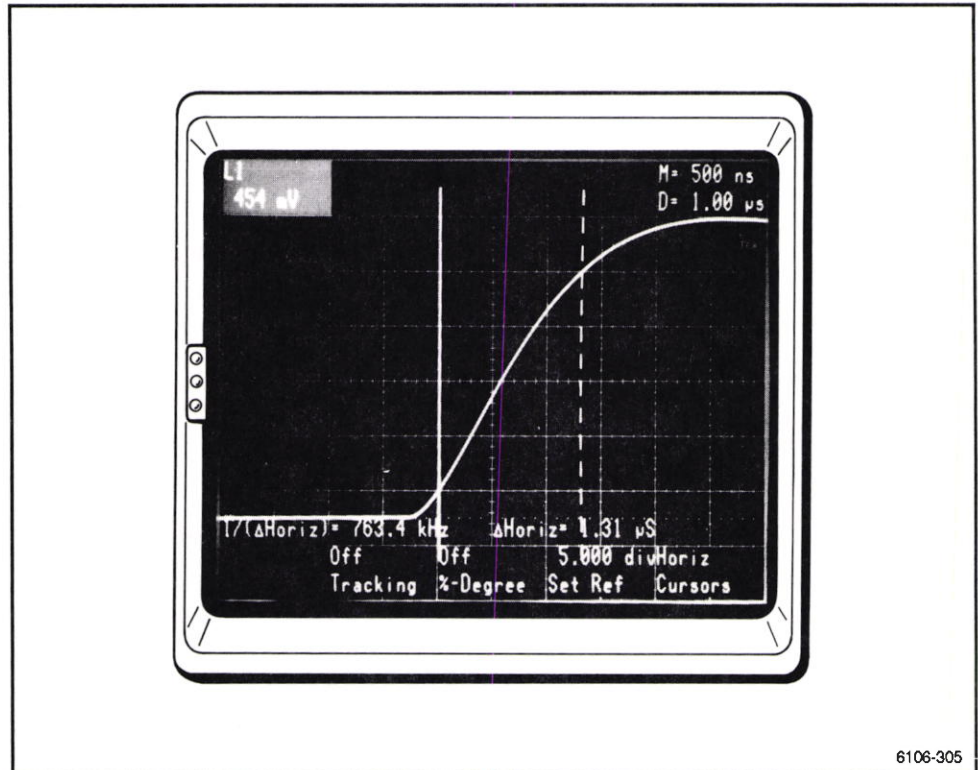

Figure 2-106. Setting the cursors to measure rise time.
6. Press the **CURSORS** button and select **Horizontal Cursors**. Be sure that **% Degree** is set to **Off**. Adjust the cursor lines until the left cursor intersects the trace at the 10% graticule line and the right cursor intersects the trace at the 90% graticule line. The rise time appears as ΔHoriz near the lower right corner of the crt screen. (See Fig. 2-106.)